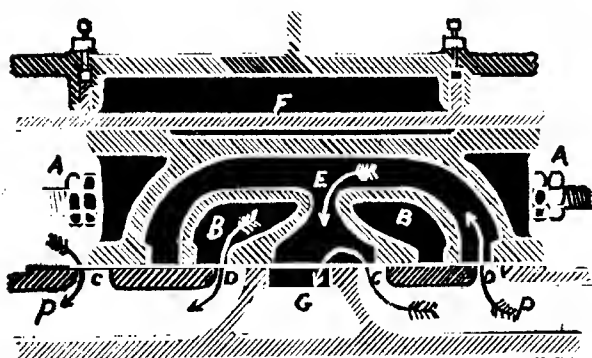

FIG. 71.—DOUBLE-PORTED BALANCED VALVE.
**The Double-ported Balanced Valve.**—The distinctive feature about this valve as illustrated in Fig. 71 is that it has two openings, C and D, to each steam port. The valve also has two passages, B and B, which extend through it and communicate with the steam chest A. In the position shown in the cut the valve is opening the left steam port. The steam enters the passage C past the edge of the valve and also enters the passage D through the opening in the chamber B, meanwhile the exhaust is escaping from the right port into the chamber E and exhaust port G at the same time it is escaping through the passage C into the